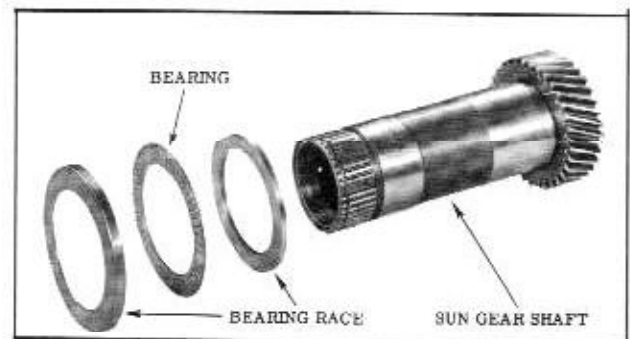

Figure 3-51 Bearing and Races
9. Remove the front unit sun gear assembly, race, thrust bearing and race. (Fig. 3-51)